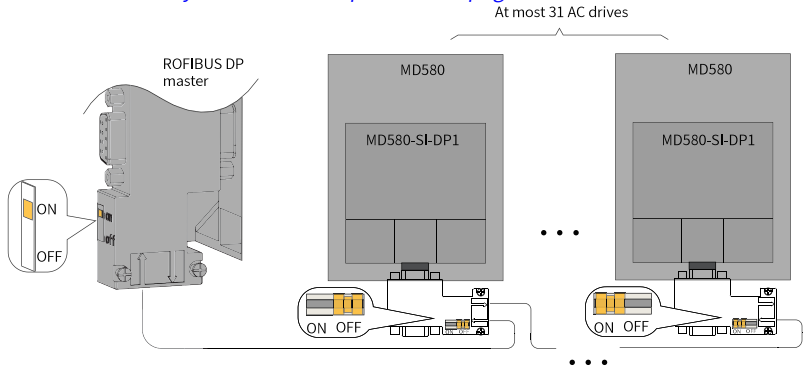

Figure 5-33 Connection of the multi-device system without repeaters
- For the multi-drive system without repeaters, termination resistors need to be connected to the first and last AC drives, as shown in "Figure 5-33 Connection of the multi-device system without repeaters" on page 75.